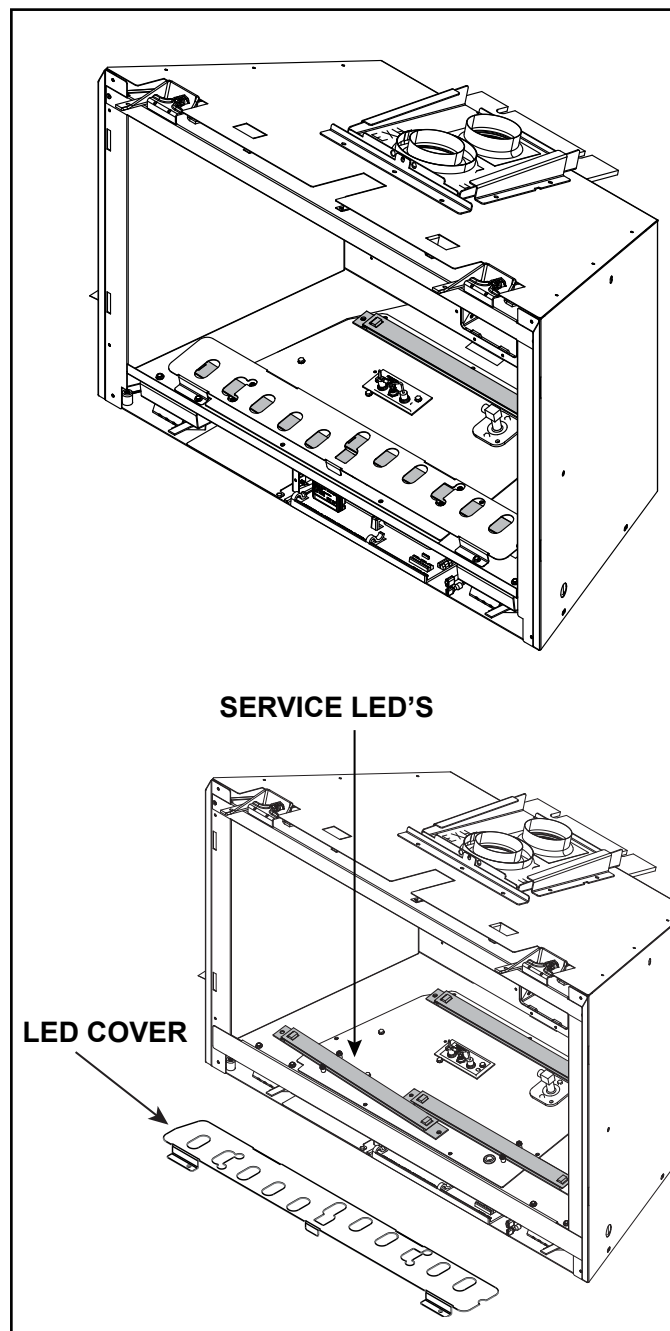

Figure 6.6 Service LED's
1. Remove decorative barrier front, glass assembly, logs, glass media, pilot shield assembly, burner assembly and base pan assembly, See Figure 6.6.
4. Reinstall LED cover (heat shield). See Figure 6.6.